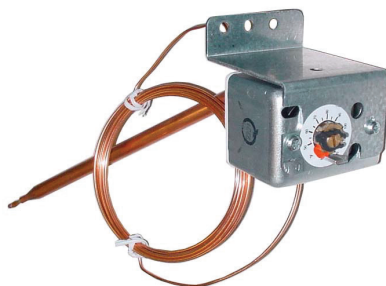

Figure 28. Unit-Mounted Ductstat
- **Ductstat with capillary tubing (option AG3):** The unit-mounted ductstat (see Figure 28) has an adjustable range of 0°F to 100°F (–17.8°C to 37.8°C) with a fixed differential of 3°F (1.7°C). The sensor is factory-set at 70°F (21.1°C). Due to different CFM settings and outside air temperatures, the average downstream outlet temperature may not match the ductstat setting exactly. After the installation is complete, adjust the setpoint of the ductstat to achieve the desired average outlet air temperature.